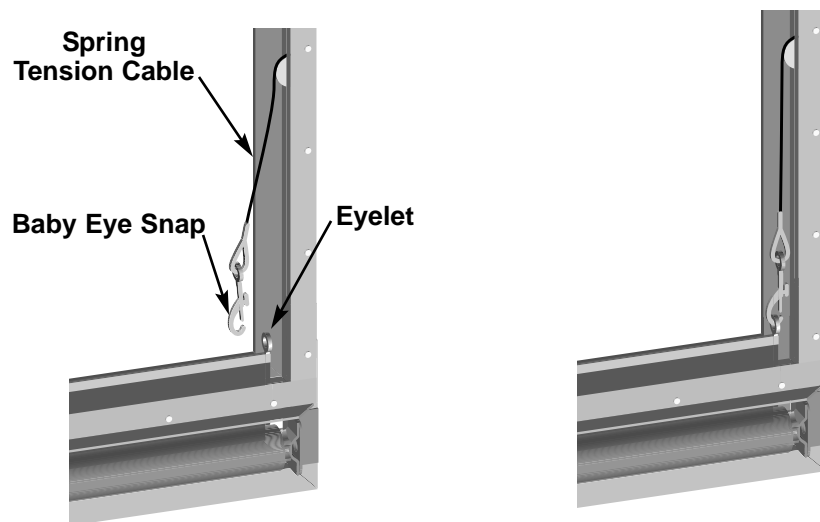

Figure 7: Connecting the spring tension cable
2. Connect the baby eye snap to the eyelet on the lower bottom of the unit. See Figure 7. You will need to pull the cable slightly (about 10 lbs. / 4.5 kg of tension).